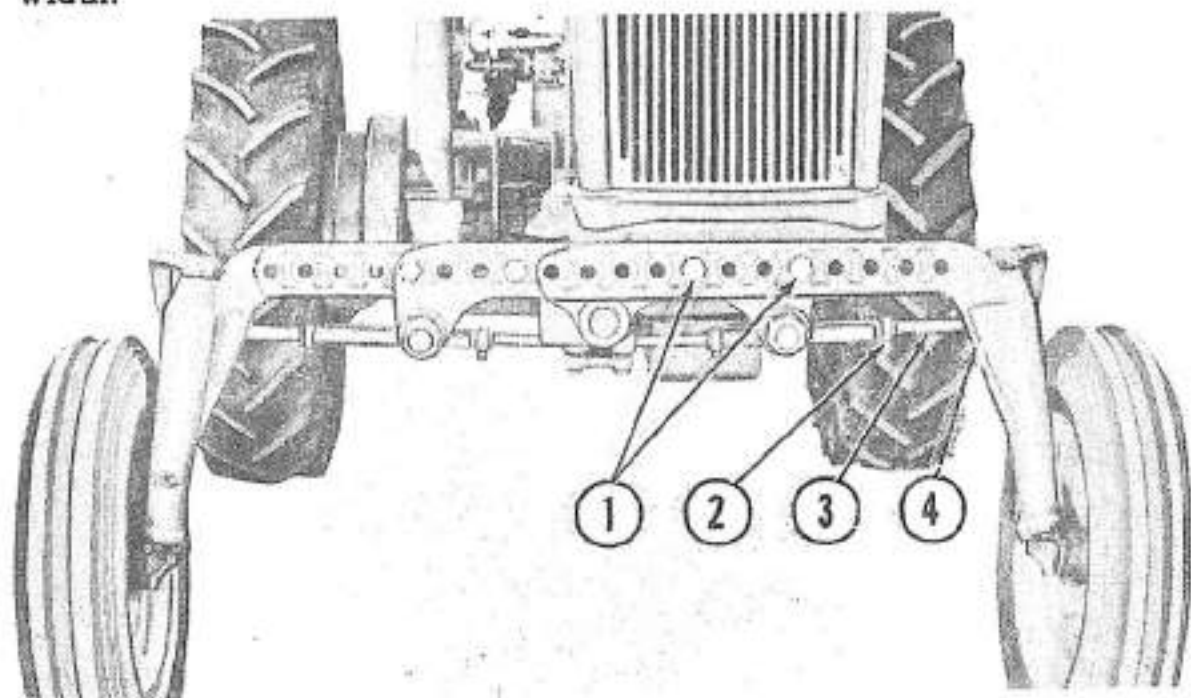

Figure 6
Front Wheels: The front wheel tread adjustment for the offset tractor can be varied from 40" to 78" in approximately 4" spacings. To change the tread width, place a jack under the forward end of the transmission housing and lift the front wheels off the ground. Adjust one axle section at a time by first removing the two hex head bolts (1), Figure 6, that secure the axle half to the center axle. Then, remove the connecting rod square head set screw (2). Position the axle half in or out to obtain the desired wheel spacing.
Toe-in adjustment is accomplished by loosening the spindle connecting rod clamp bolts (4), Figure 6, and the set screw (2). Lengthen or shorten the connecting rods (3), by turning them. Correct toe-in is obtained when a difference of 1/4" exists between the tread widths.